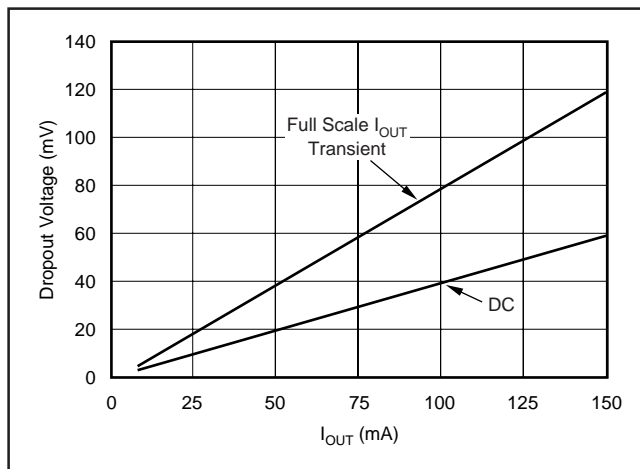

FIGURE 6. Transient and DC Dropout.
The REG101 uses an N-channel DMOS as the “pass” element. When the input voltage is within a few tens of millivolts of the output voltage, the DMOS device behaves like a resistor. Therefore, for low values of  $V_{IN}$  to  $V_{OUT}$ , the regulator’s input-to-output resistance is the  $R_{dsON}$  of the DMOS pass element (typically  $600m\Omega$ ). For static (DC) loads, the REG101 will typically maintain regulation down to  $V_{IN}$  to  $V_{OUT}$  voltage drop of  $60mV$  at full rated output current. In Figure 6, the bottom line (DC dropout) shows the minimum  $V_{IN}$  to  $V_{OUT}$  voltage drop required to prevent drop-out under DC load conditions.
For large step changes in load current, the REG101 requires a larger voltage drop across it to avoid degraded transient response. The boundary of this “transient drop-out” region is shown as the top line in Figure 6. Values of  $V_{IN}$  to  $V_{OUT}$  voltage drop above this line insure normal transient response.